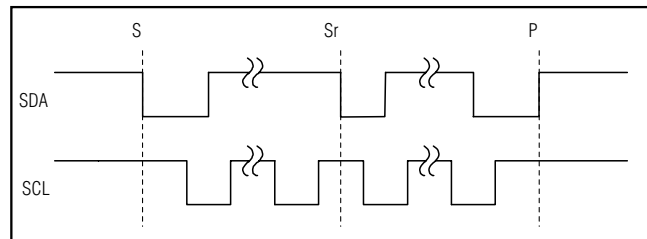

Figure 5. START and STOP Conditions
The master initiates a transmission with a START condition (S), a high-to-low transition on SDA while SCL is high. The master terminates a transmission with a STOP condition (P), a low-to-high transition on SDA while SCL is high (Figure 5). A repeated START condition (S_r) can be used in place of a STOP condition to leave the bus active and the interface mode unchanged (see HS mode).